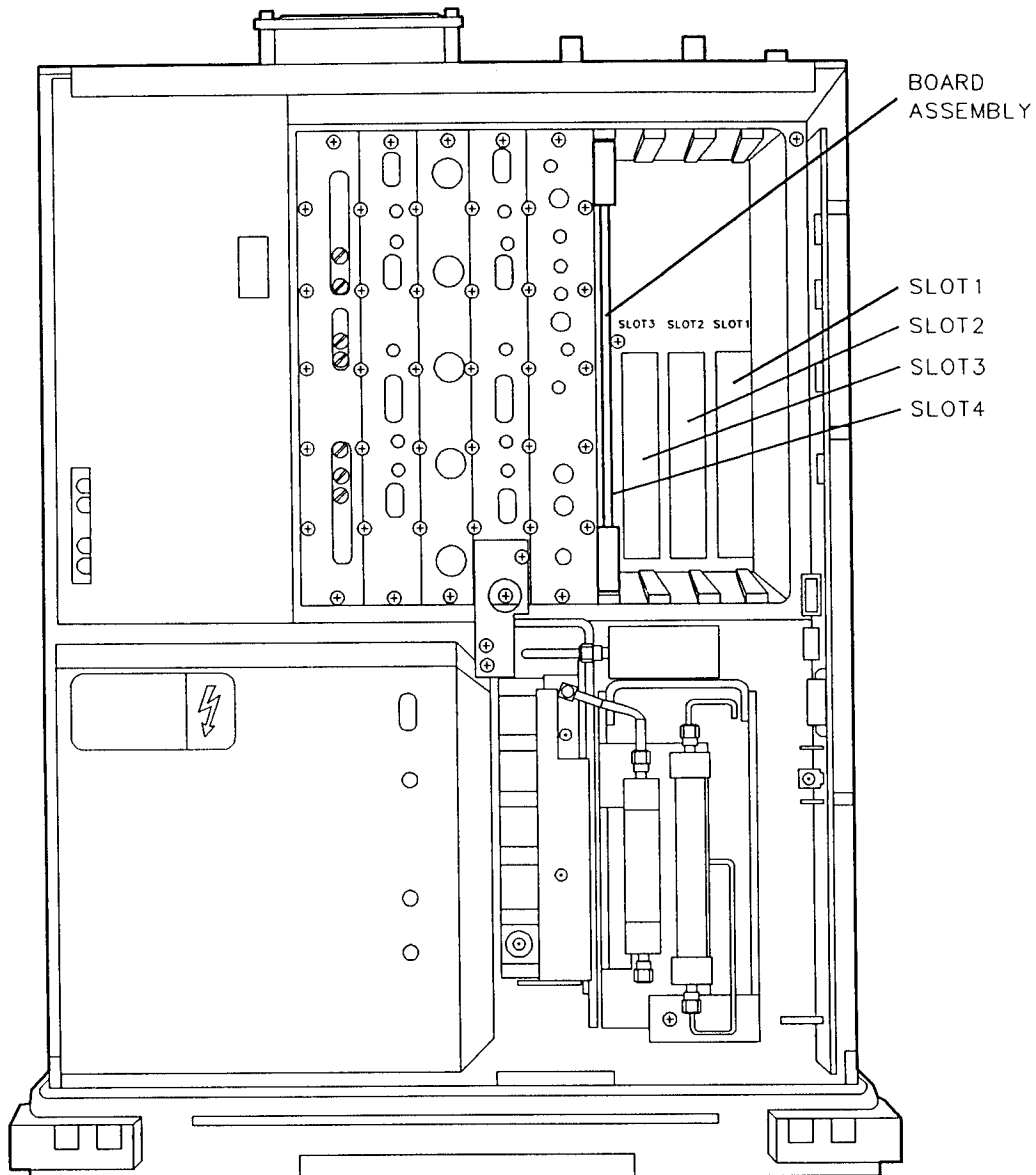

Figure 7. Inserting Board Assembly
20. With the component side of the board facing slots 1, 2, and 3, insert the quasi-peak detector/demodulator board assembly in slot 4 of the four slots near the rear panel of the analyzer. (See Figure 7.)